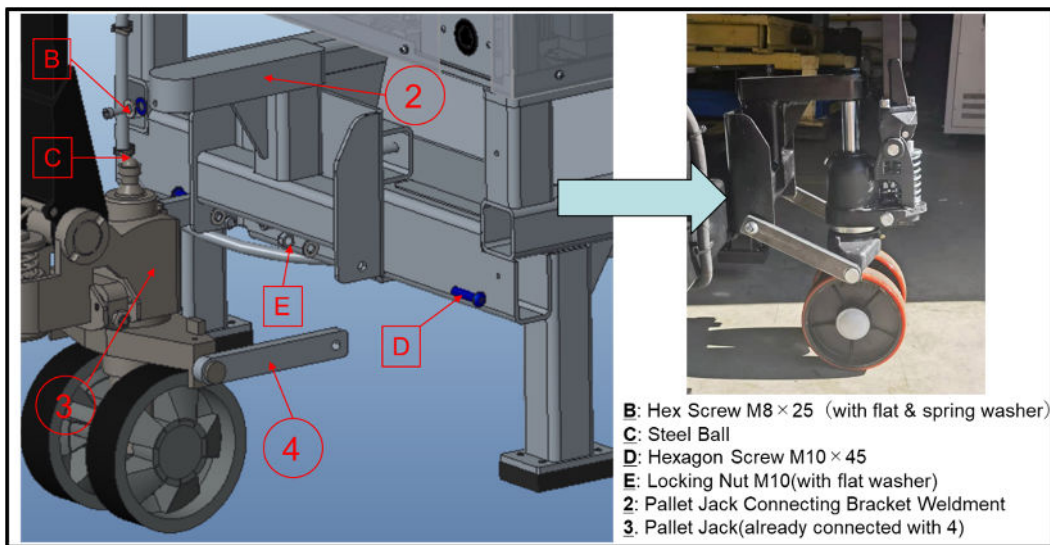

Fig.7.1.6 Pallet Jack Installation
- 3 Tighten screw B at the position shown in Figure 7.1.6.